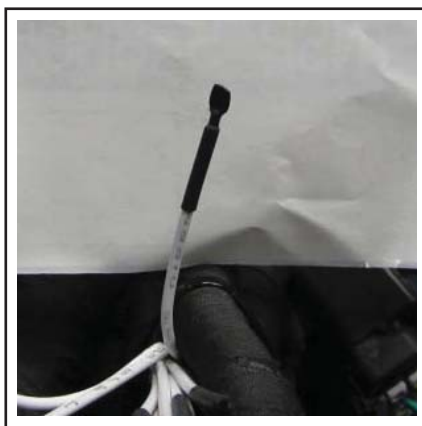

Figure 4 - Typical Installation of Heat Shrink Tubing on a Cut Wire End
- 1.11. Cut two pieces of N27548-18 heat shrink tubing and install a piece on both wire ends to insulate them properly. See Figures 4 & 6.
- 1.18. Cut two pieces of N27548-18 heat shrink tubing and install a piece on both wire ends to insulate them properly. See Figures 4 & 9.
- 1.23. Cut two pieces of N27548-18 heat shrink tubing and install a piece on both wire ends to insulate them properly. See Figures 4 & 12.
- 1.28. Cut two pieces of N27548-18 heat shrink tubing and install a piece on both wire ends to insulate them properly. See Figures 4 & 14.